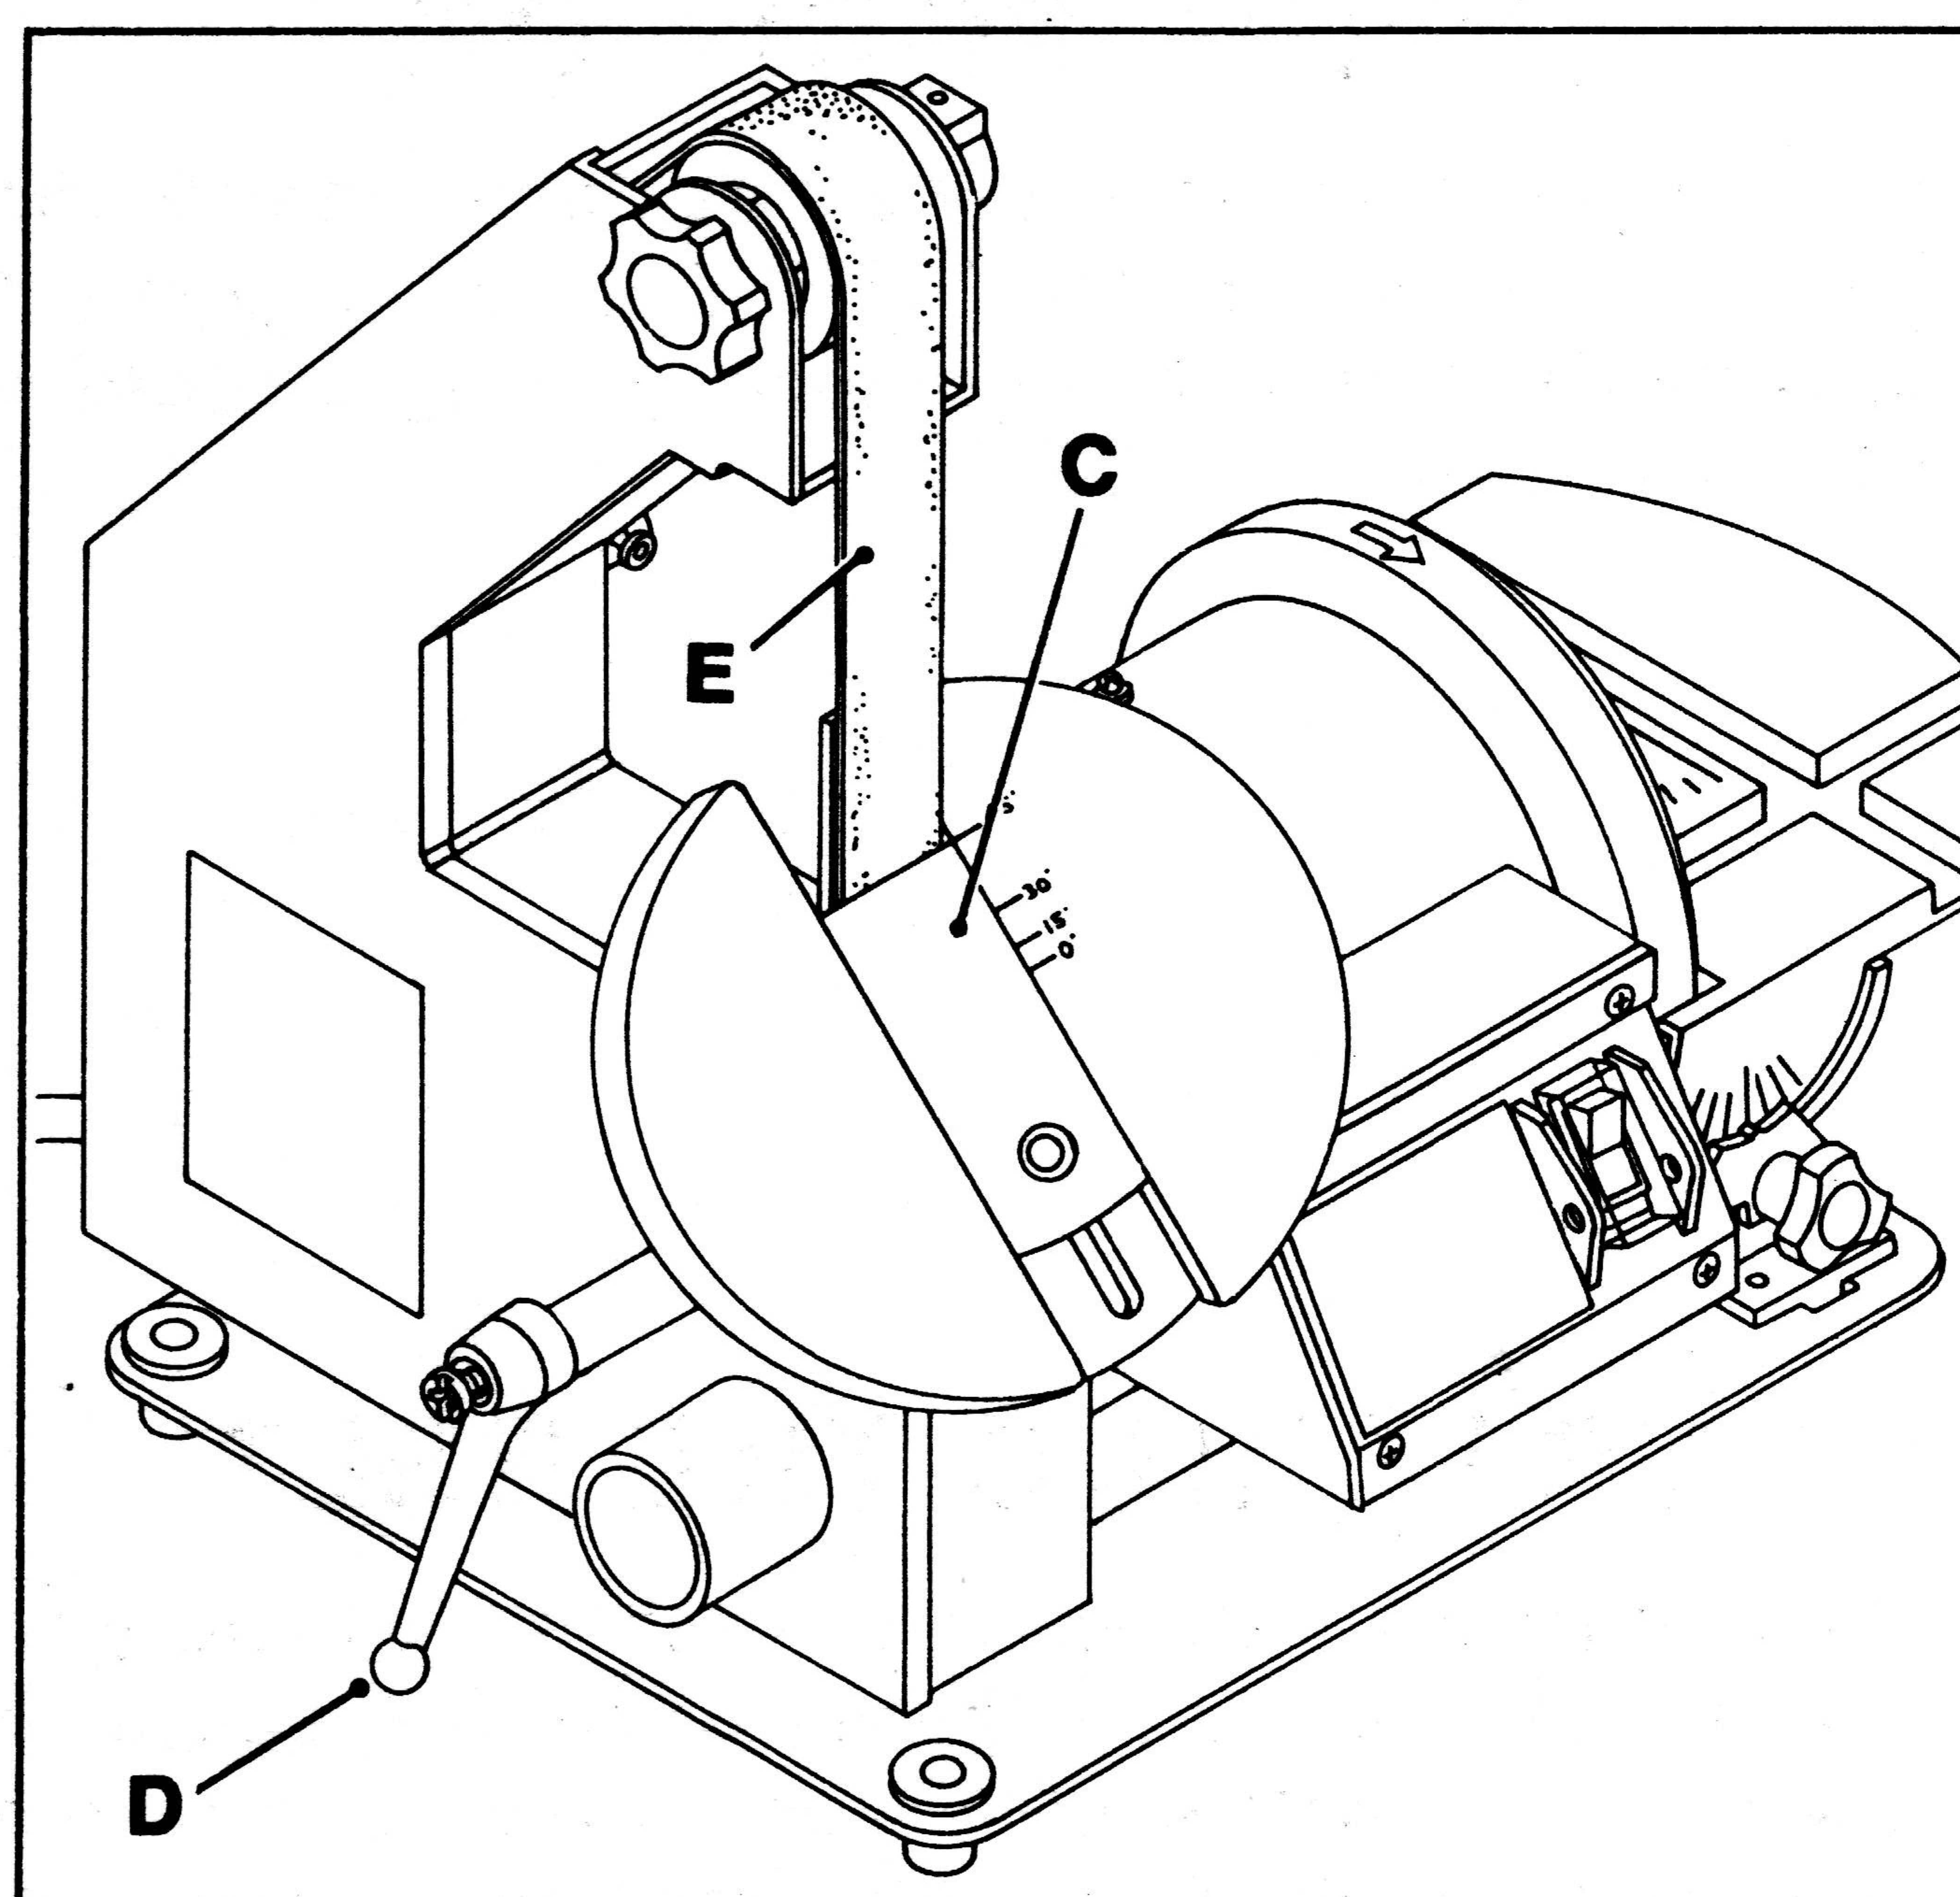

Fig. 13
4. The table can be tilted to the front as shown in Fig. 13 by loosening the belt table locking handle assembly (D), tilting the table to desired angle and tightening the table locking handle assembly (D).
⚠WARNING To avoid trapping the work or fingers between the table and sanding belt, the edge of the sliding plate (C) should be positioned a maximum of 1/16 inch from sanding belt (E), as shown in Fig. 13.